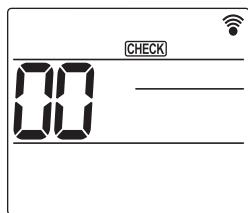
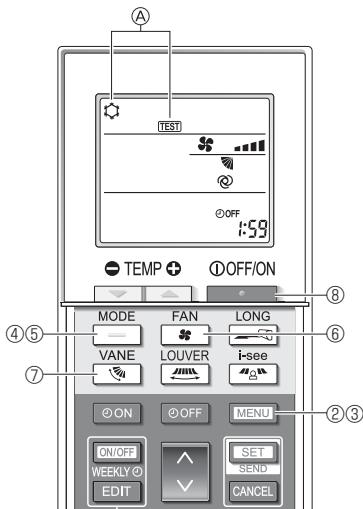

Fig. 6-7
Fig. 6-8
- ① Turn on the power to the unit at least 12 hours before the test run.
- ② Press the **MENU** button for 5 seconds. (Fig. 6-7)
- ③ Press the **MENU** button.
- ④ **[TEST]** and the current operation mode are displayed. (Fig. 6-8)
- ⑤ Press the **—** button to activate cool mode, then check whether cool air is blown out from the unit.
- ⑥ Press the **—** button to activate heat mode, then check whether warm air is blown out from the unit.
- ⑦ Press the **OK** button and check whether the fan speed changes.
- ⑧ Press the **OK** button to stop the test run.